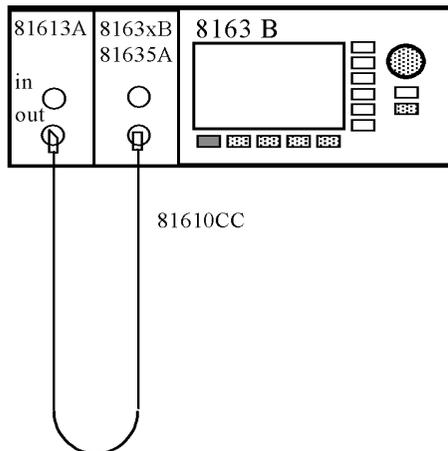

Figure 6 Return Loss Measurement Setup
- 2 Set up the equipment as shown in Figure 6 .